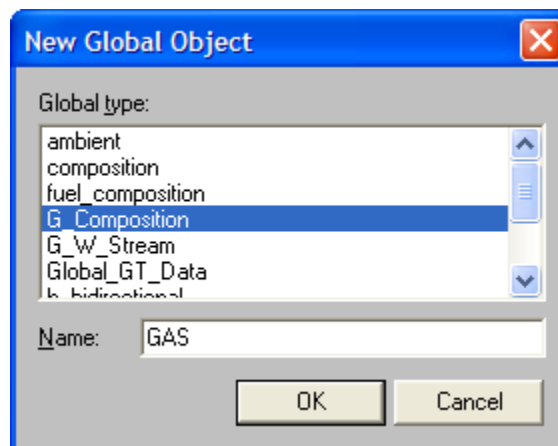

Fig. 4.3: Dialog for creating new global objects
1. From menu **Objects** select the command **New Global Object**. PSE opens the window shown in figure 4.3.